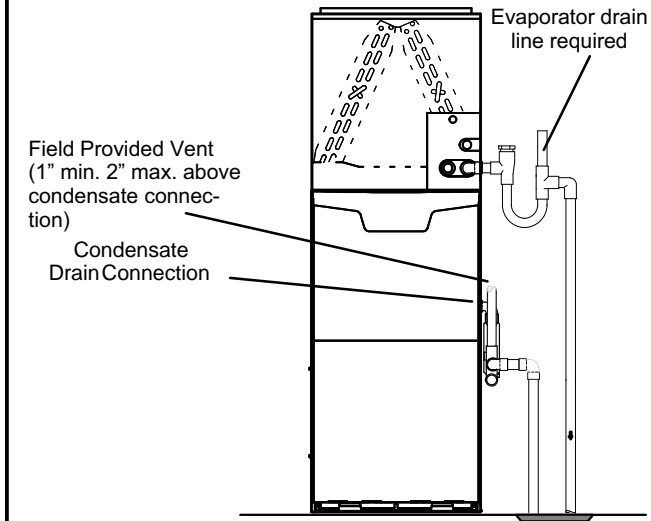

FIGURE 47
- 5 - Figures 47 and 49 show the furnace and evaporator coil using a separate drain. If necessary the condensate line from the furnace and evaporator coil can drain together. See figures 48, 50 and 51.